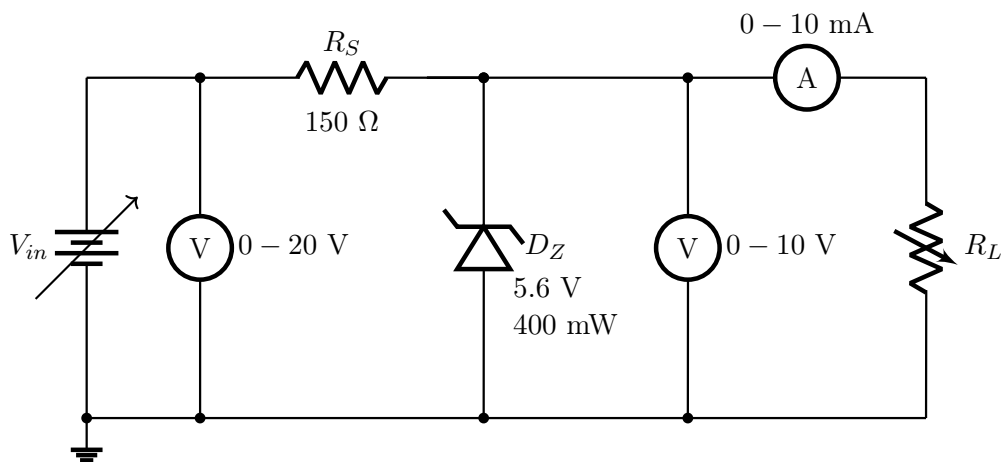

Figure 2.1: Zener diode voltage regulator circuit
The circuit diagram to be set up is given in Fig. 2.1.
1. Connect the circuit as shown in Figure 2.1 with R_L set to give $I_L = I_{L(\max)} = 5$ mA (i.e., $R_L = V_Z/I_{L(\max)} \approx 1.12$ k Ω). A rheostat of 2.2k may be used as the load resistance R_L .